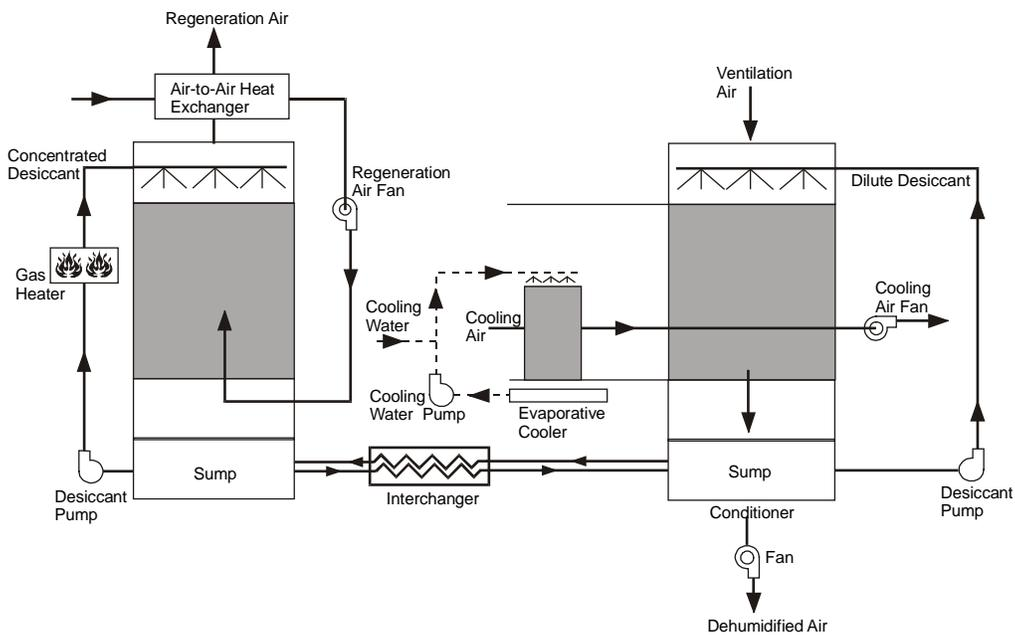

Figure 43 Humidity pump (LIQ-VENT-AIR-1)
- LIQ-VENT-AIR-1        A liquid desiccant dehumidifying unit called a "humidity pump" (Figure 43). See DESC-CTRL-MODE for control modes. See DESC-DEW-SET for the dewpoint temperature setpoint of the air leaving the unit.